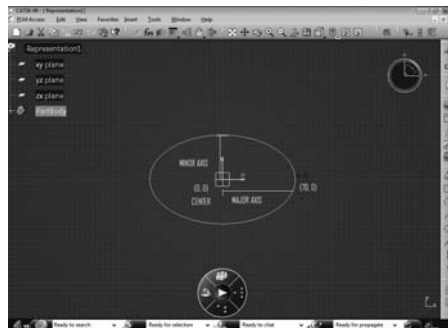

**FIGURE 2.42**
- Specify the third point (50, 30) on the ellipse to determine the minor axis of the ellipse (**Figure 2.42**). The figure of the ellipse after all the parameters (i.e., center, focus, and axes) are set is shown in Figure 2.42:
Figure 2.42 shows the various components of an ellipse; namely, the center, foci, major axis, minor axis, and point of orientation.